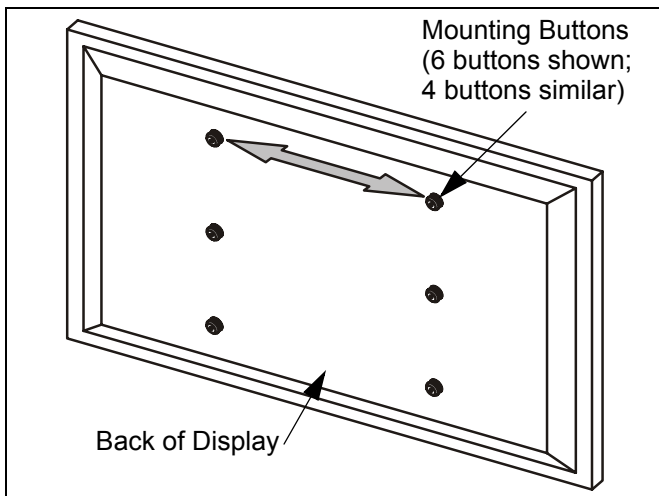

Figure 11: Horizontal Dimension
1. Determine *horizontal* dimension between mounting buttons on back of display (or interface bracket, if required) (See Figure 11).